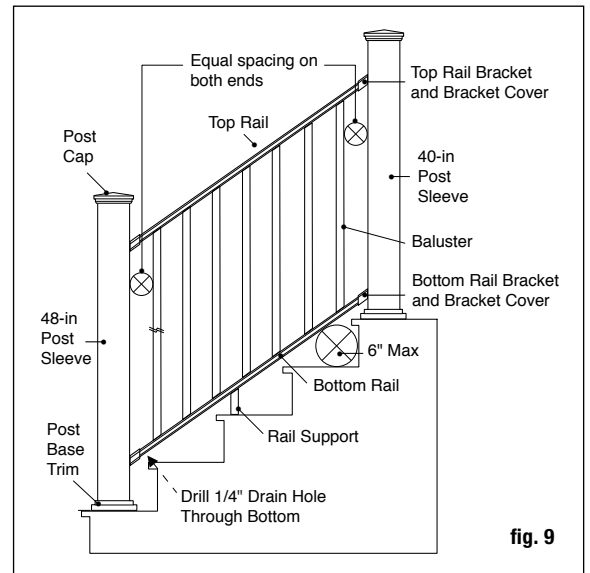
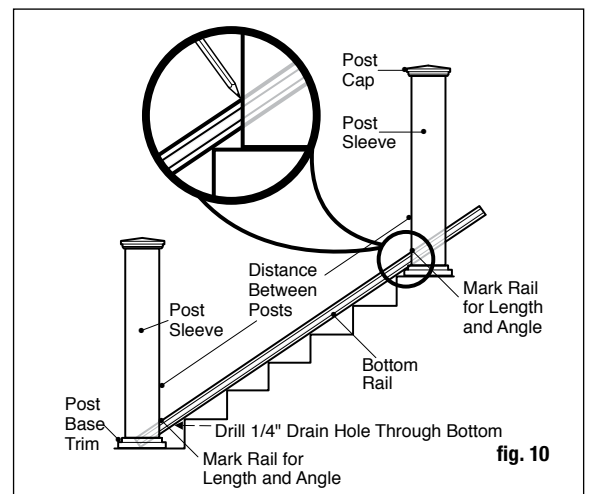

fig. 9
fig. 10
**Step 6** Measure the distance between installed post sleeves to determine the length of the top and bottom rails. Place the bottom rail on the stair treads next to the posts and adjust so the distance between the first baluster hole and post is greater than 2-3/4" minimum and equal on both ends (fig. 9). Mark the rail to the proper length and angle. Cut the bottom rail. Cut the top rail to the same length and angle (fig. 10). **Drill one 1/4" drain hole through the bottom of the rail to prevent trapping water. Position the hole toward the lower end of the rail, roughly 2" from rail end to avoid the lower bracket.**
**Step 7** Place the proper rail bracket covers and stair brackets on the ends of the bottom rail. Pay particular attention to the brackets being used as they differ based on top/bottom rail and up/down angle. Determine the position of the rail support and attach to the bottom rail. Prop the bottom rail between the posts on the stair treads (fig. 10). You may need to place equal shims between two stair tread noses to elevate the bottom rail. Check for requirements in your area. Typically, a 6" sphere may not be allowed to pass through the triangle formed by the bottom rail, tread and riser (fig. 9). Center the stair bracket on the post. Using the stair bracket as a guide, mark the screw positions on the post sleeve and rail on both ends. Pre-drill 1/8" pilot holes through the post sleeve and rail. Attach the stair bracket to the post sleeve using four #8-15 x 2" - #2 square drive flat head screws and then attach stair bracket to rail using two #8-16 x 3/4" - #1 square drive wafer head self-drilling screws.